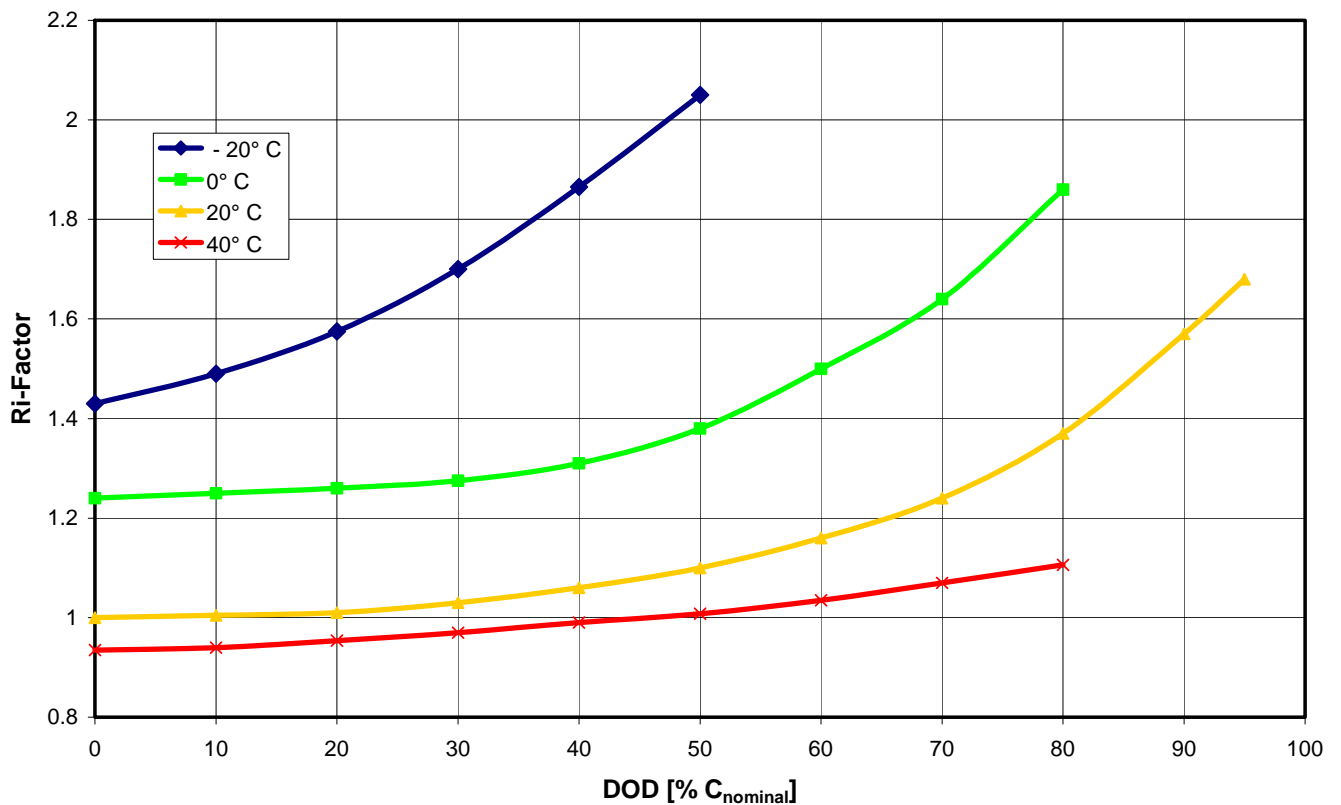

Fig. 27: Internal Resistance R_i vs. Depth of Discharge (DOD) and Temperature
- The internal resistance R_i varies with depth of discharge (DOD) as well temperature, as shown in fig. 27 below. Hereby, the R_i -value at 0% DOD (fully charged) and 20° C, respectively, is the base line (R_i -factor = 1). The R_i -basic value can be taken from the equivalent catalogue.